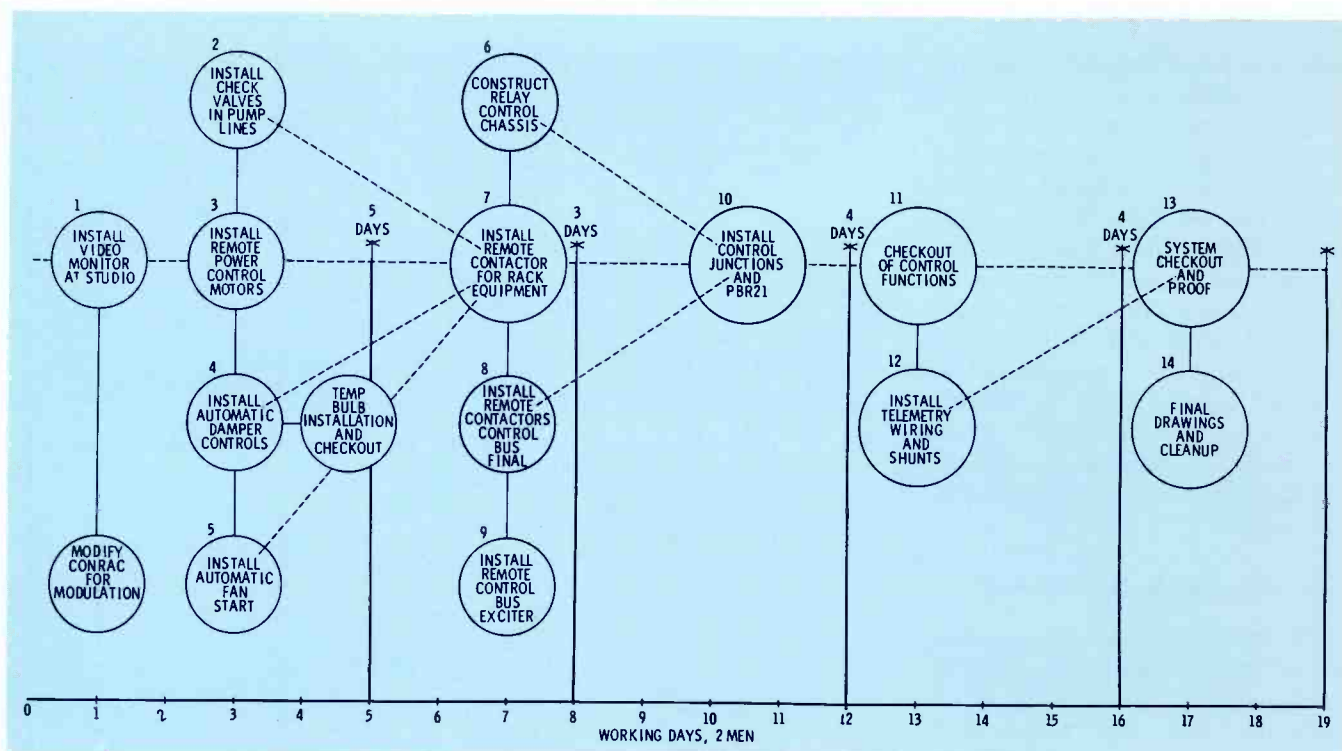

Fig. 4. Periodic Evaluation Review Technique (PERT) shows how work is accomplished in job versus time sequence.
The chart (Fig. 4) follows the Periodic Evaluation Review Technique (PERT), with all tasks established in numerical sequence versus a time sequence. All jobs are identified by number so that time and material can be organized. Those jobs which can be performed during air time and those that can be accomplished only during off-air time can be identified. On the chart were listed all of the equipment to be modified, included, or installed in the overall project. Note that item 1 was the installation of the transmitter monitor in the studio.
As shown in the PERT schedule (Fig. 4), the first steps taken to prepare the transmitter installation for remote control were related to those transmitter operations which could be automated. Each step was unique, and required modification to the original equipment before it could be incorporated into automatic sequence.